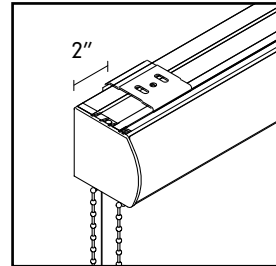

fig. 2
2. Brackets must be installed no more than 2" from each end of the cassette (fig. 2). A third bracket will be provided for shades wider than 72" and can be installed halfway between the two outer brackets.